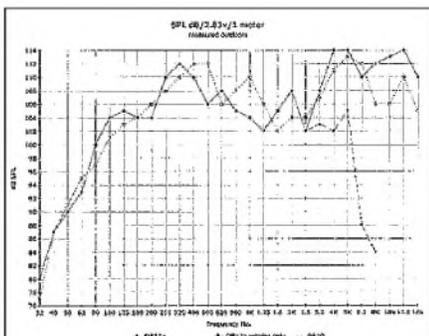

FIGURE 1: SPL comparison—the DR12a with EV premium driver versus the DR10 with midline Eminence driver. B-2138-1
What I found out was fascinating! The audio visual (AV) decoder (a massive LSI) has four sets of digital outputs: one is the "straight through" of whatever's on the disc that goes to the machine's digital out (*Fig. 1*). The other three are paired as follows:
Fig. 1. The DR12a, which uses a 100dB EV12L™ driver, has somewhat higher sensitivity. If the tested DR10 were loaded with a 100dB driver instead of its 98dB Eminence™, it would be higher in sensitivity than the DR12a. Conversely, if loaded with a midline driver, the DR12a would be less sensitive than the DR10.